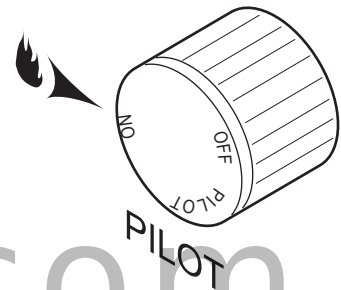

Figure 49 - On Position
Depress and turn the knob counterclockwise ↺ to the “ON” position. *Figure 49*. It will take less than four (4) seconds for the burner to ignite.